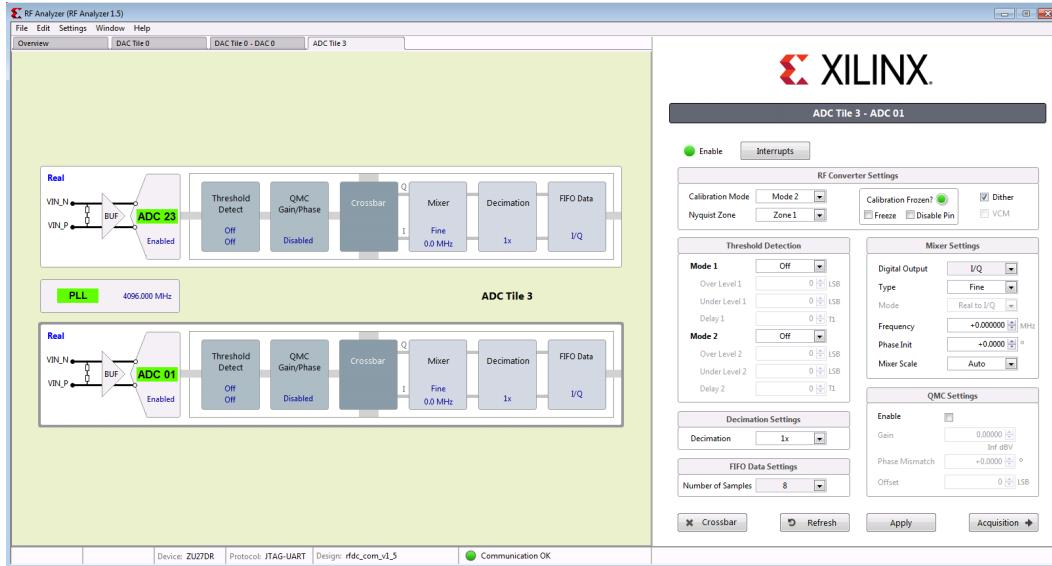

Figure 26. ADC Tile interface
15. On the new tab, illustrated on Figure 26, select one ADC and press “Acquisition”.